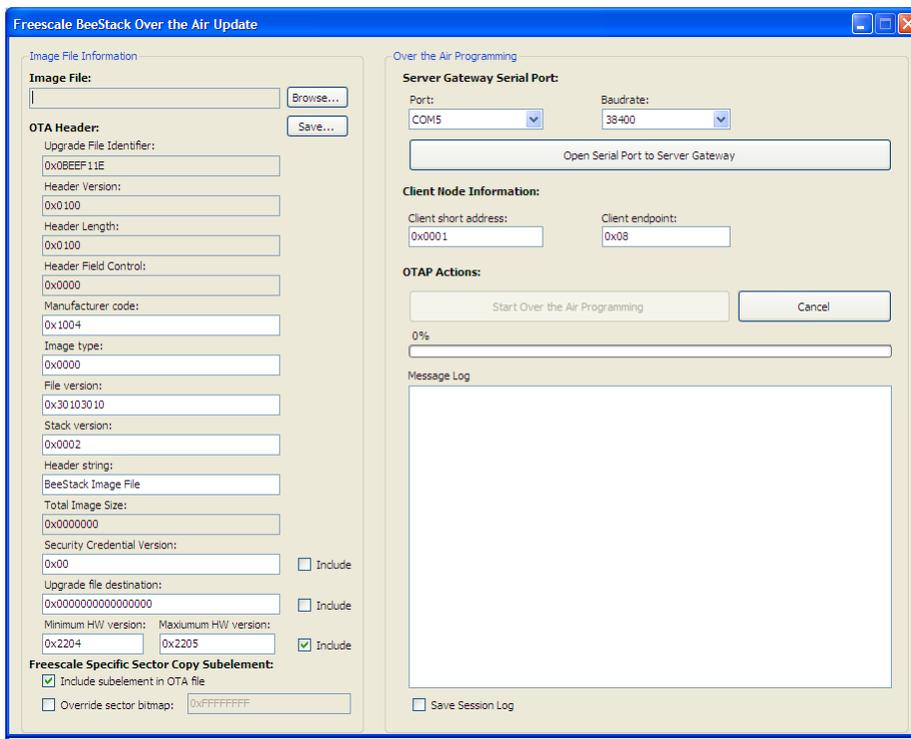

Figure 10-3. BeeStack OTA Update View
3. Start Test Tool and choose View -> OTA Update in the menu bar in Test Tool 11.3.0 or OTA Update -> OTA BeeStack in Test Tool 12.0.0 to launch the OTA Update View as shown in Figure 10-3.